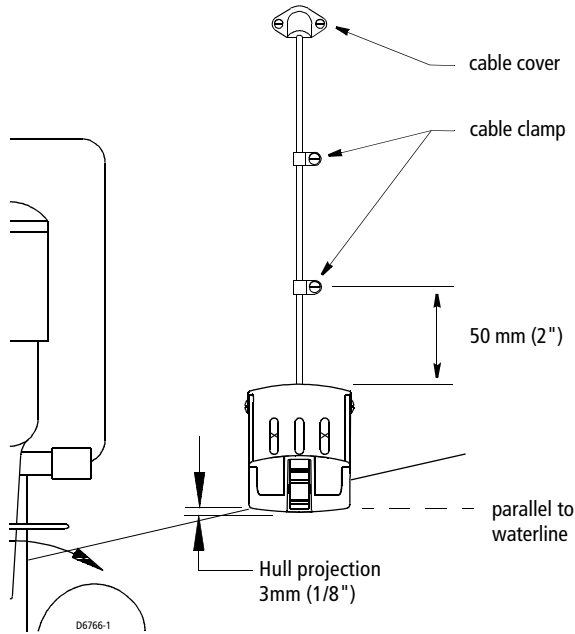

Figure 2-9: Vertical Adjustment and Cable Routing
1. At the selected location on the starboard side of the hull, position the transducer, so the transducer projects 3 mm (1/8") below the bottom edge of the transom (see *Figure 2-9*).
2. Screw the transducer (with the shim if needed) to the hull (see *Figure 2-9*). *Do not tighten the screws at this time.*
2. Using the vertical adjustment space in the bracket slots, slide the transducer up or down (see *Figure 2-9*). Be sure the bottom left corner of the transducer projections 3 mm (1/8") below the bottom of the hull.
1. If a hole must be drilled through the transom, choose a location **well above the waterline** (see *Figure 2-9*). Check for obstructions such as trim tabs, pumps, or wiring inside the hull. Mark the location with a pencil. Drill a hole using the appropriate size bit to accommodate the connector.